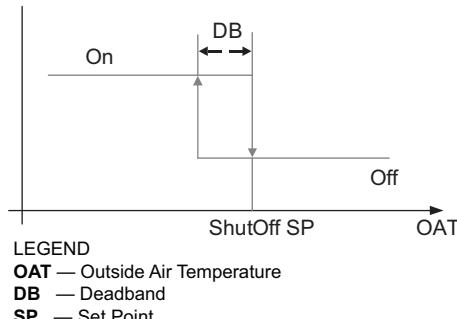

Fig. 83 — Hysteresis Settings
Hysteresis setting (DB) defaults to 2°F (−17°C). See Fig. 83.